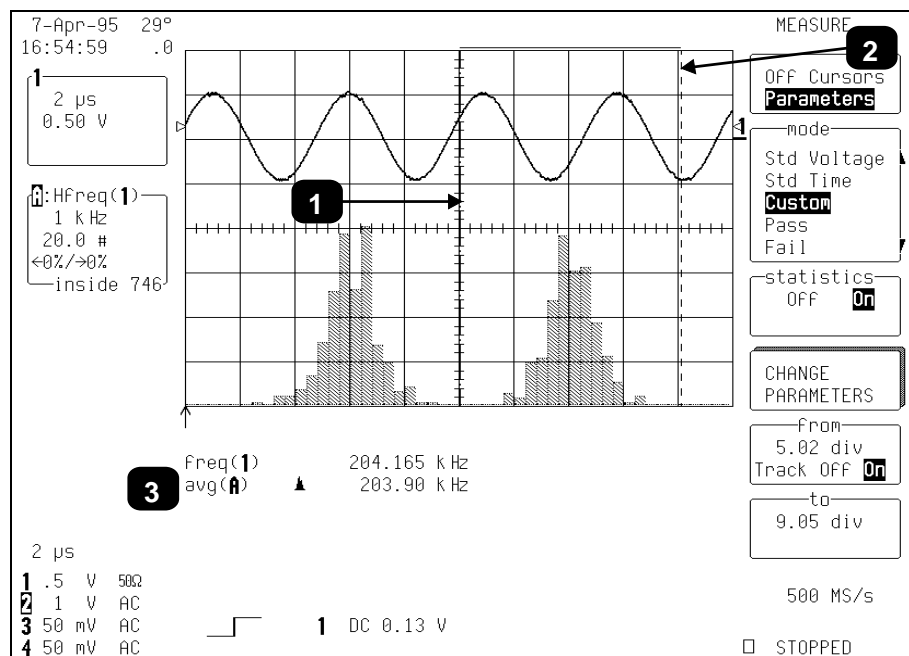

Figure 1.5
Figure 1.5, below, shows the use of the parameter cursors (Annotations ❶ and ❷) in determining the average frequency of the distribution located between the cursors. The average value of the measurements in the right-hand distribution is indicated by Annotation ❸.